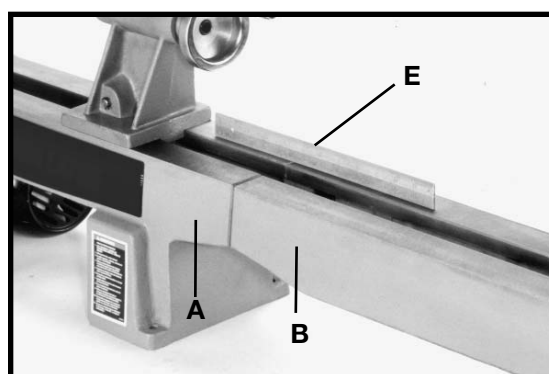

Fig. 33
2. **IMPORTANT:** Before tightening screws, use a straight edge (E) Fig. 33 to be certain that the lathe bed (A) is flush with the bed extension (B). This action will allow the tailstock to move freely along both beds.